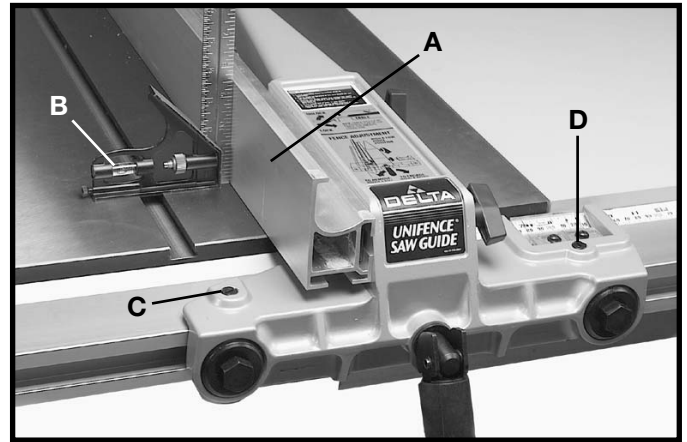

Fig. 102
The fence must be adjusted so that the face of fence (A) Fig. 102, is 90 degrees to the table. To check if the fence is 90 degrees to the table, place a square (B) on the table with one end of the square against the fence, as shown. If an adjustment is necessary, tighten or loosen one of two screws (C) or (D) until the fence is 90 degrees to the table.